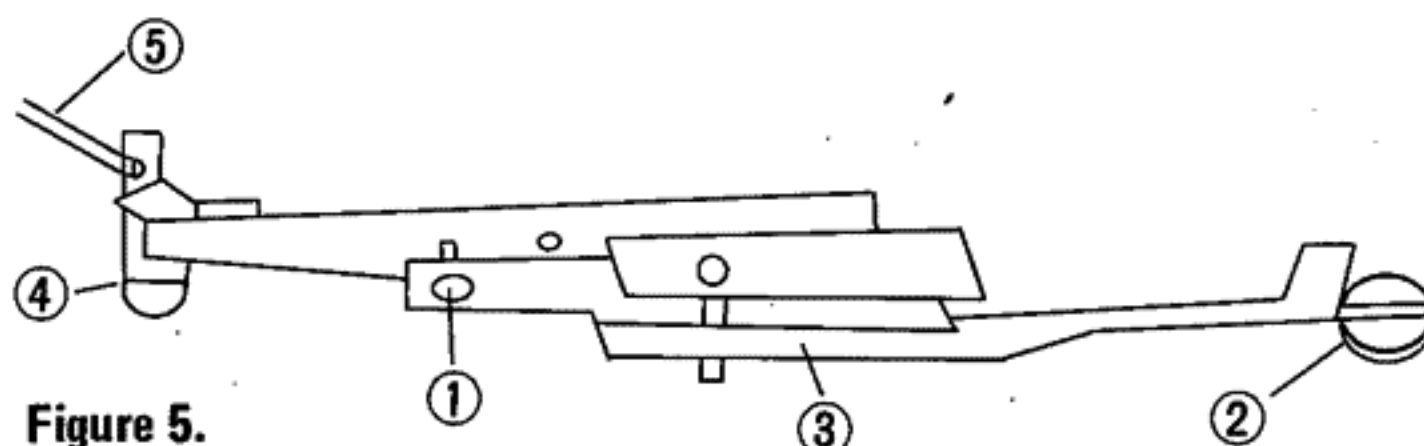

Figure 5.
The height adjustment is effected by means of the eccentric pin ② in Figure 5. The arm is raised by turning ② clockwise and lowered by turning it counterclockwise. However, the position of the arm will lower suddenly at a certain position since the height is adjusted by means of the eccentric pin. (For clockwise revolution)
The height adjustment is effected by means of the adjusting screw ① in Figure 5. The arm is lowered by turning ② clockwise and heightened by turning it counterclockwise. The adjusting screw ① has no relation to the height of the arm during full automatic operation. Therefore, note that when the adjusting screw is turned counterclockwise (when the height of the arm has been increased), the return time of the cue rod assembly (lifter bar) from the "UP" position to the "DOWN" position may be shortened. After completing the adjustment, apply paint to the adjusting screw and the eccentric pin.
- ① Adjusting screw
- ② Eccentric pin
- ③ Elevation receiver assembly
- ④ Cam holder assembly
- ⑤ Cue rod assembly